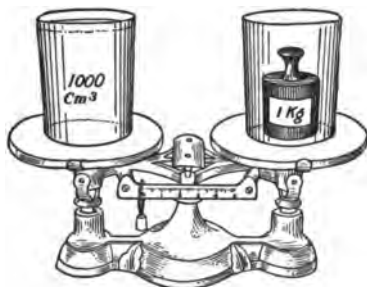

FIG. 5.—One liter of water weighs one kilogram.
a meter in each dimension and the kilogram is the weight of a liter of water. (See Fig. 5.)
13. Advantages of the Metric System.—*First*, it is a decimal system; *second*, the same form and prefixes are used in every table; *third*, the standards of length (meter), volume (liter), and weight (kilogram) bear a simple relation to one another. This simple relation between the three standard units may be given thus: *first*, the liter is a cubic decimeter, and *second*, the kilogram is the weight of a liter of water. (See Fig. 5.) Since the liter is a cubic deci-